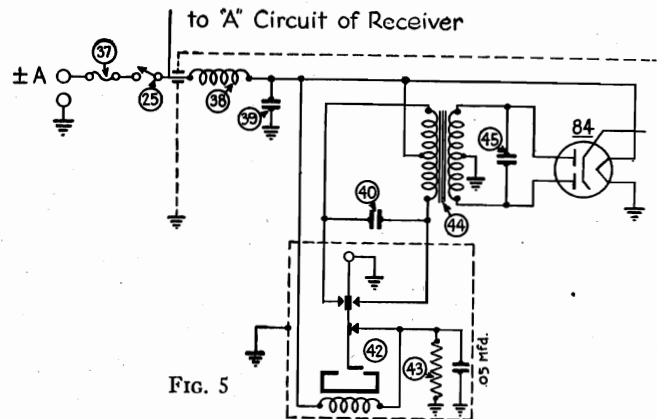

FIG. 5
Fig. 5 shows the changes made in the vibrator section of the Model 5. The 200-ohm resistor ⑩ in the old schematic has been removed from across the vibrator contacts. An .05 mfd. condenser will be added to the driver contact spring to remove vibrator interference which may be picked up due to the increased sensitivity of the receiver. The thirty-turn choke, while not shown in the schematic as a part, is still used in wiring the receiver. Fig. 5 also shows a correction to the schematic in the April "Service Broadcast." The "A" lead to the "A" circuit of the receiver should be connected at the switch ahead of the "A" choke instead of being connected as shown in the earlier schematic.